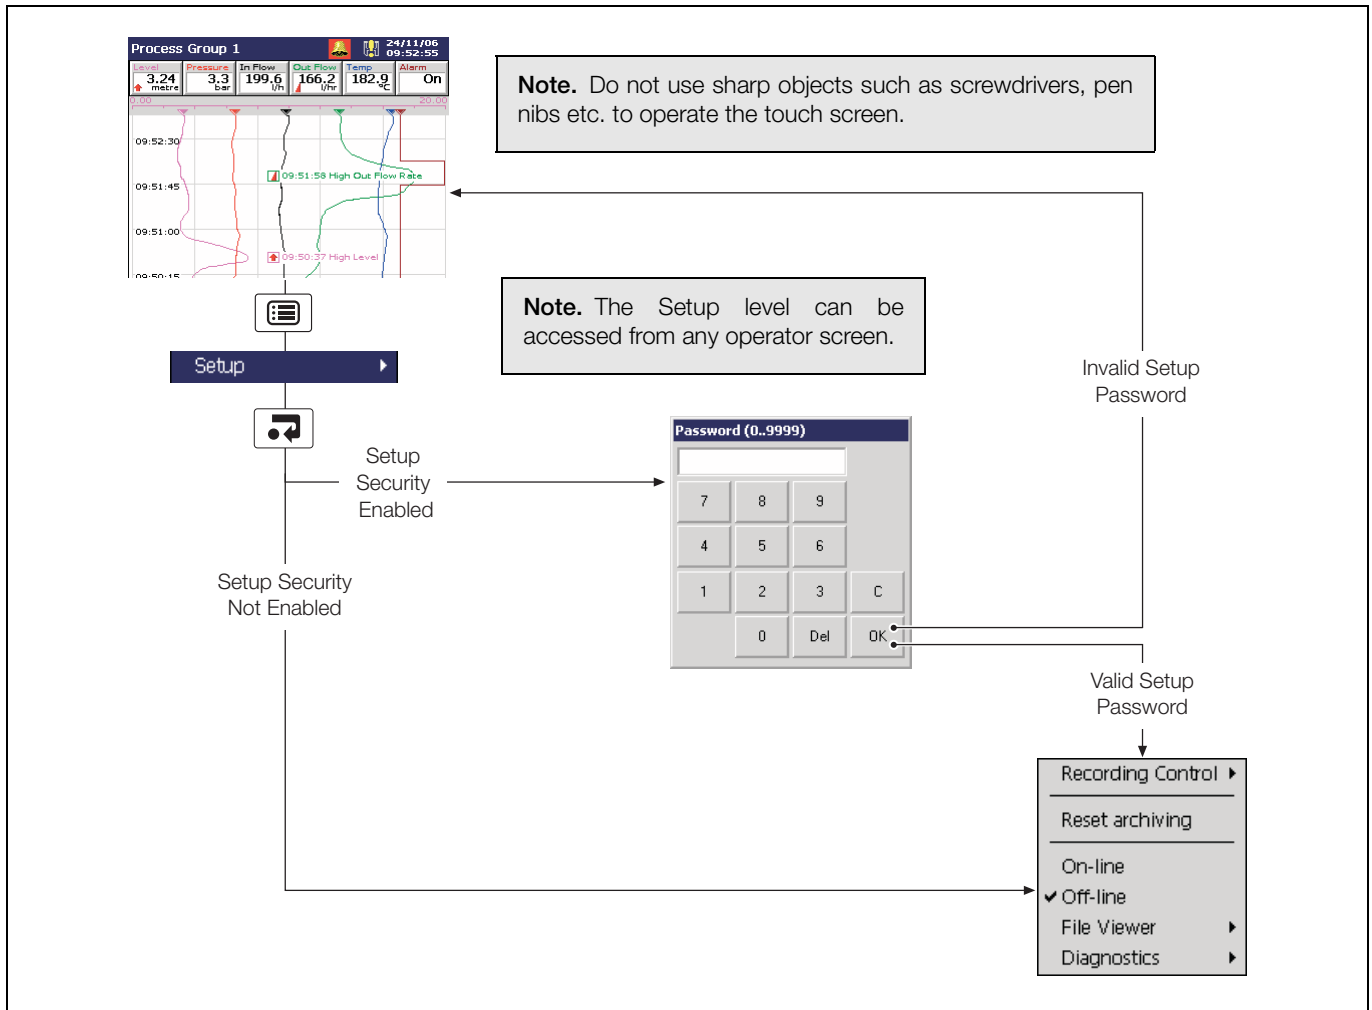

Fig. 3.1 Accessing the Setup Level – Basic Security
3.2 Accessing the Setup Level – Figs. 3.1 and 3.2
- If 'Security System' is set to 'Basic' and 'Setup Level Security' is set to 'On', access to the Setup Level is protected by a single password for all users. Refer to Fig. 3.1 to access the Setup Level.